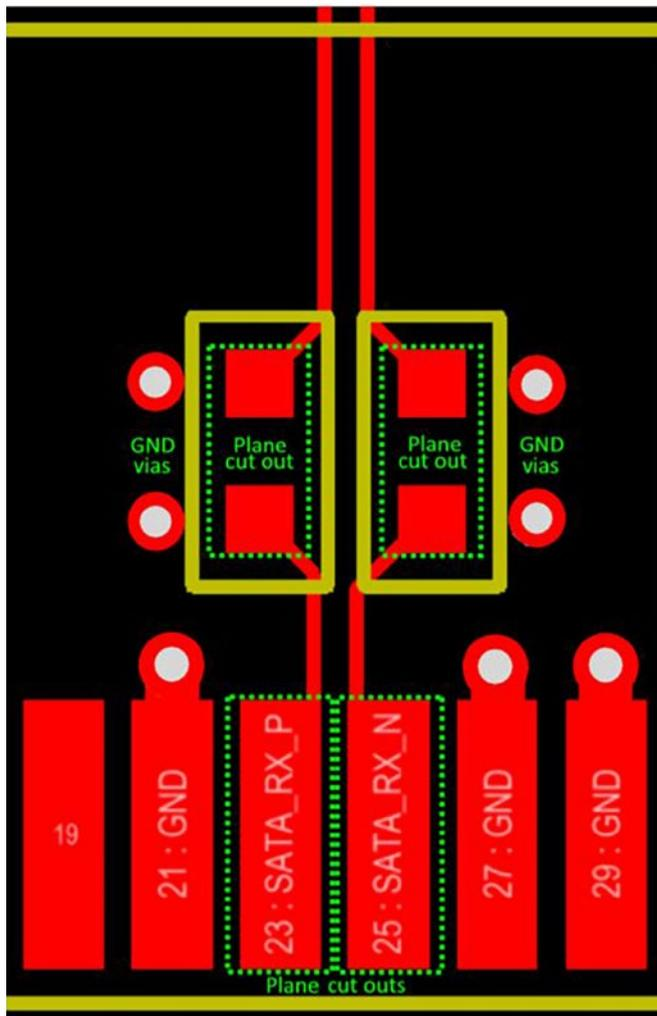

Figure 2: Plane cut-outs.
1. To eliminate the excess parasitic capacitance associated with surface mount lands, a portion of the reference plane that is directly beneath the component can be removed. This allows the signal that traverses through the capacitor to reference a lower plane (further away) and reduces the parasitic capacitance, thereby minimizing the impedance mismatch (Figure 2).